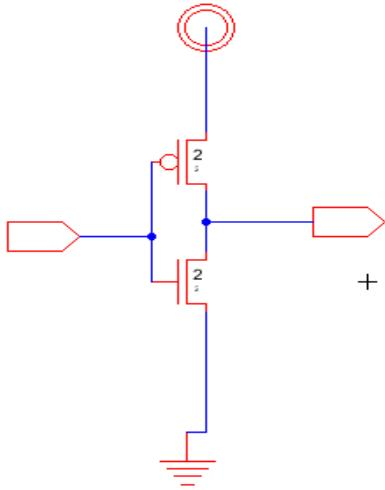

Figure 1.11: Making the connection between all components.
9. Connect all components as shown in Figure 1.11.